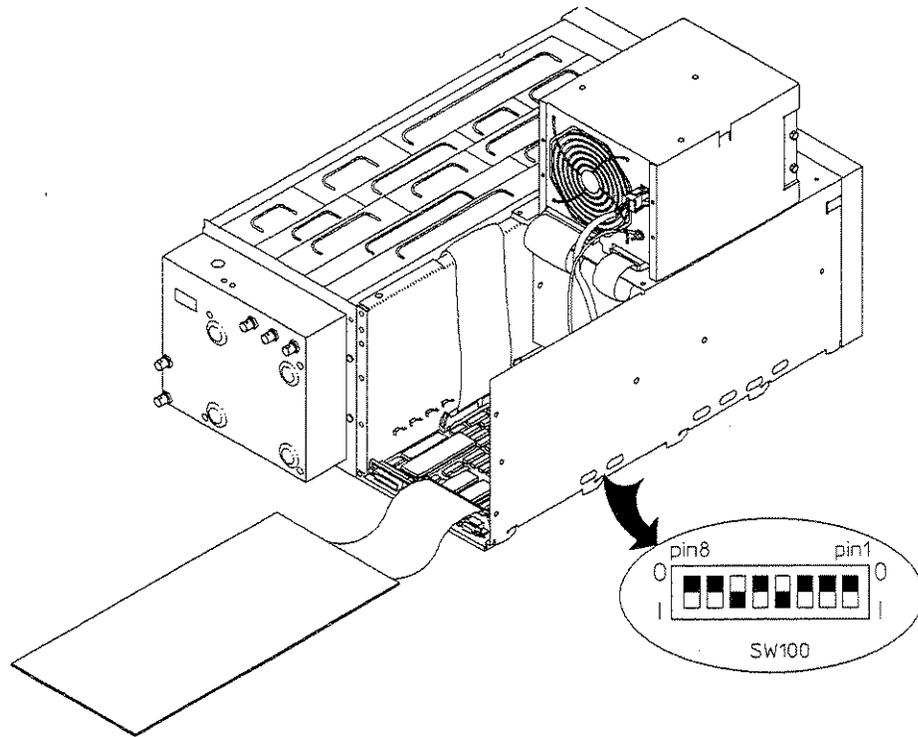

Figure 5-12. Switch Setting for Fast Bus Test
2. On the CPU assembly, set SW100 pin 6 to one (see figure 5-12).
3. Set the power switch to ON (1). The screen displays Fast Bus Diagnostic Test Also the power-on test LEDs alternately flash hexadecimal AA (DS707, DS705, DS703, and DS701 are on) and hexadecimal 55 (DS706, DS704, DS702, and DS700 are on). If the analyzer did not respond correctly, the CPU assembly is probably faulty.